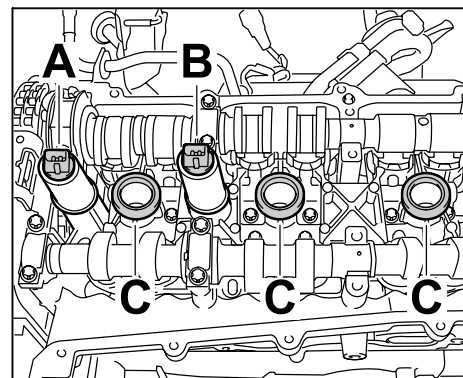

Figure 5
2.2.2 Remove solenoid hydraulic valve for **camshaft timing** from the old cylinder heads and **fit it** on the new cylinder heads ⇒ *Figure 5 -A-*; ⇒ *Workshop Manual '153719 Removing and installing solenoid hydraulic valve (camshaft timing)'*.
2.2.3 Remove solenoid hydraulic valve for **valve lift control** from the old cylinder heads and **fit it** on the new cylinder heads ⇒ *Figure 5 -B-*; ⇒ *Workshop Manual '155519 Removing and installing solenoid hydraulic valve (valve lift control)'*.
2.2.4 Insert new spark plug recess seals (6 x ⇒ 996.104.203.00) ⇒ *Figure 5 -C-* and fit both cylinder head covers ⇒ *Workshop Manual '159119 Removing and installing cover for camshaft housing – section on "Installing"*.